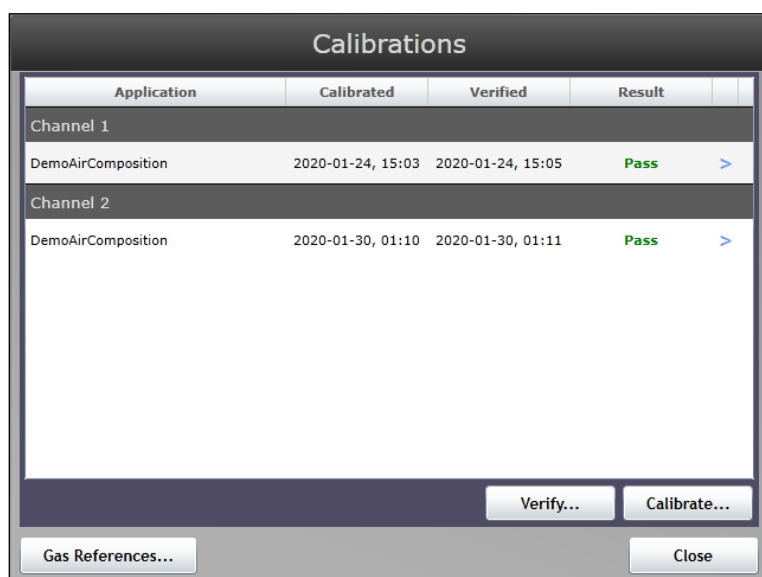

Figure 82. Calibrations
The Calibrations screen appears (Figure 82). The Calibrations screen shows each channel, the when each channel was calibrated or verified, the result (Pass or Fail), and an option to select the Details of each calibration. Function buttons on the lower right are used to run a new verification or calibration. Running a new Calibration is typically recommended only when a Verification fails. The **Gas References** button on the lower left is used to input the known values of the calibration gas for each channel (provided with the calibration bottle).
1. Click > (Figure 82) on the right side of the screen to select the calibration details you wish to view. The Calibration Details screen (Figure 83) appears showing the Verification Results tab. The Verification Results tab displays more specific detail on the components of the verification.
1. Click the **Verify** button on the Calibrations Screen (Figure 82).
8. From the Calibrations screen, click the **Close** button to return to the main UI screen. The calibration is now complete. The system must be re-enabled in order to return to its normal sampling cycle, as described in *General tab* in Section 8.5.1 and shown in Figure 82.